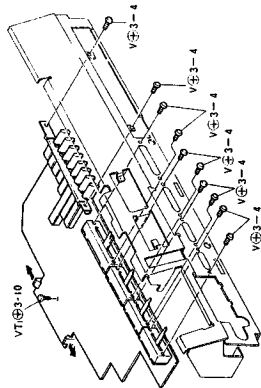

Fig. 9
- 1) Remove 11 screws. (Refer to Fig. 9)